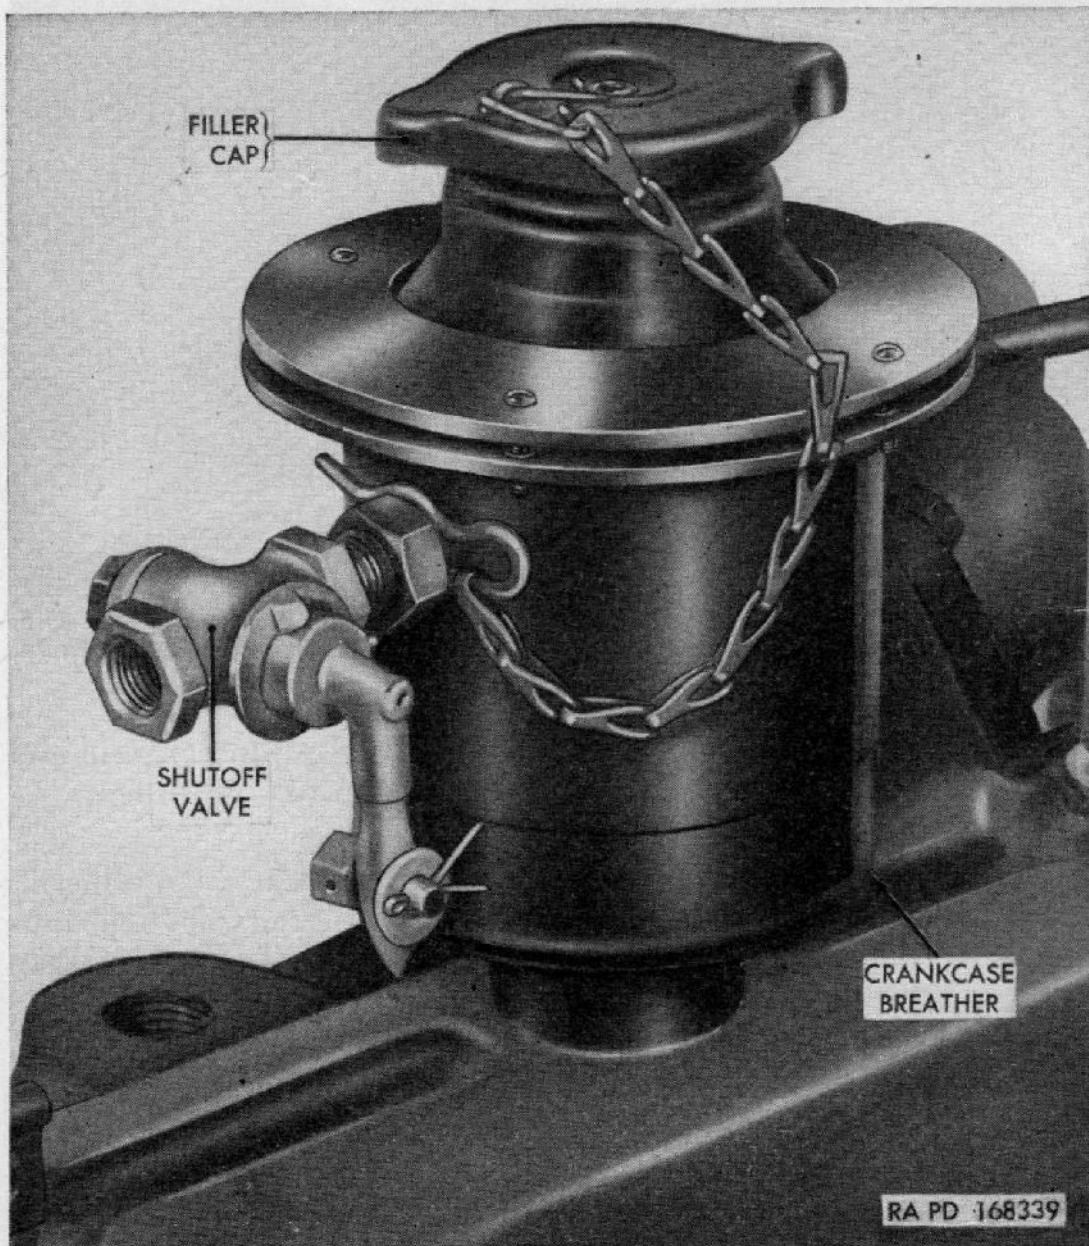

Figure 48. Crankcase breather.
b. FILLING. The oil pan is filled through crankcase breather (fig. 48). Loosen and remove breather cap and pour oil through center of breather. For replenishment of oil between oil changes, add estimated amount of oil required. Start engine and run for two minutes to allow time for transfer of oil from rear sump to front sump where gage is located. Stop engine and wait one or two minutes before checking oil level. Check level (*a* above) and repeat procedure until "F" mark on gage is reached. To refill after draining, fill with nine quarts of oil of correct grade (par. 57). Start engine and run for two minutes to allow time for transfer of oil to front sump where gage is located. Stop engine and wait one to two minutes before checking oil level.
(fig. 48)
- (7) *Disconnect ventilation lines.* Disconnect fuel pump, fuel tank, distributor, and hydraulic master cylinder ventilation lines from air cleaner (fig. 54). Disconnect control wire from shut-off valve at rear of crankcase breather (fig. 48).
- (7) *Connect pump ventilation lines.* Connect fuel pump, fuel tank, distributor, and hydraulic master cylinder ventilation lines at air cleaner (fig. 54). Connect control wire to shut-off valve at rear of crankcase breather (fig. 48).